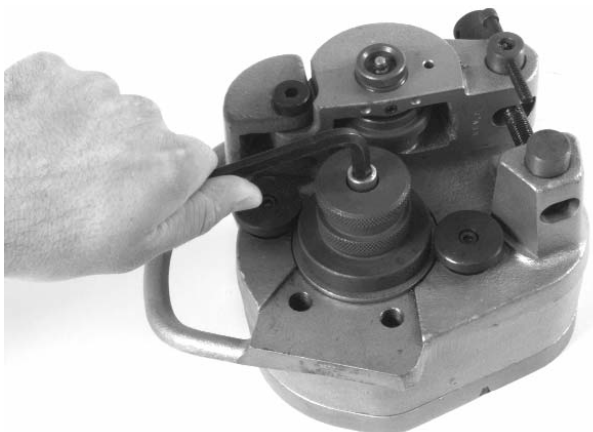

Figure 8 – Removing Hex Screw from Drive Roll
3. Remove the hex screw retaining the drive roll with a 5/16" hex key (Figure 8). If using the 8" – 12" or 4" – 6" rollset, remove the drive roll support bolts with a 3/8" hex key.